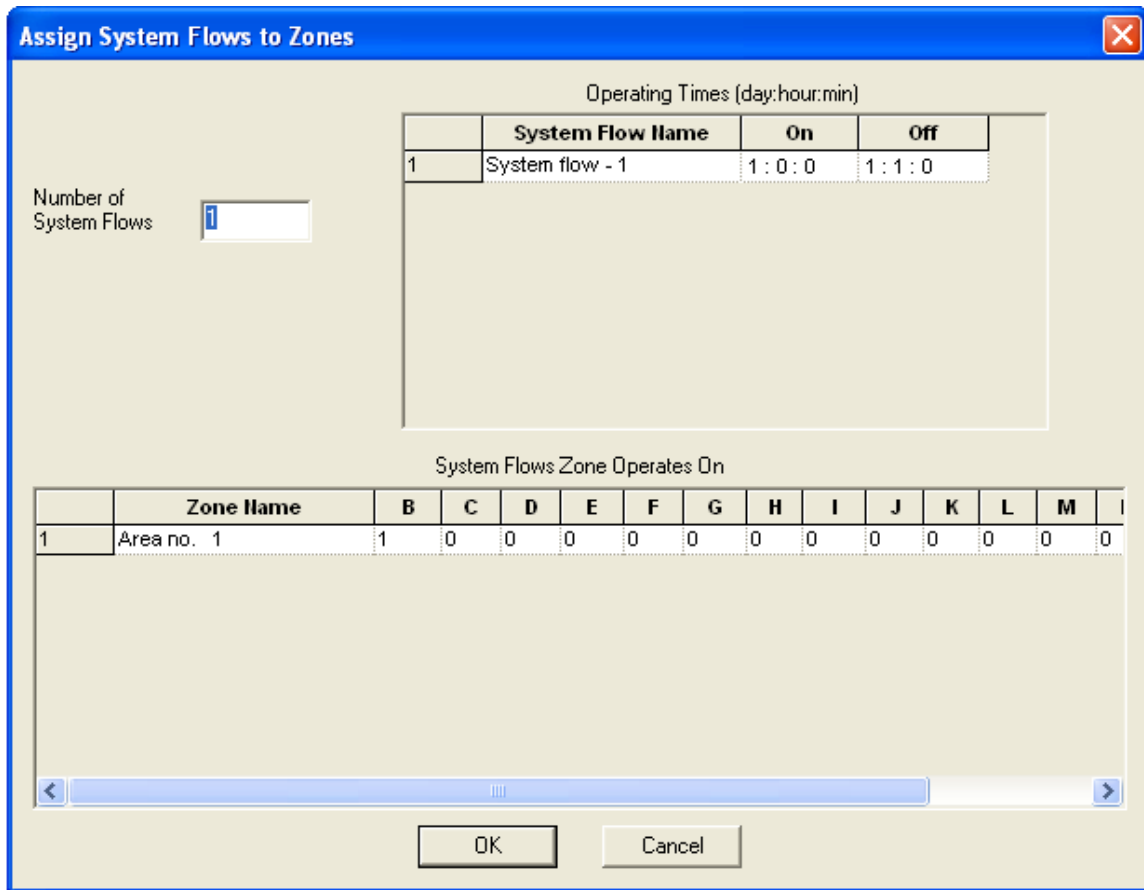

Figure SM 6
22. Select *Design|Assign All Zones to One System Flow*. IRRICAD assigns Area no. 1 to operate on System Flow 1 as in Figure SM 6. The on and off times (one hour operating time), for the system flow, are automatically listed. Click [OK]. We are now ready to proceed with the design process.